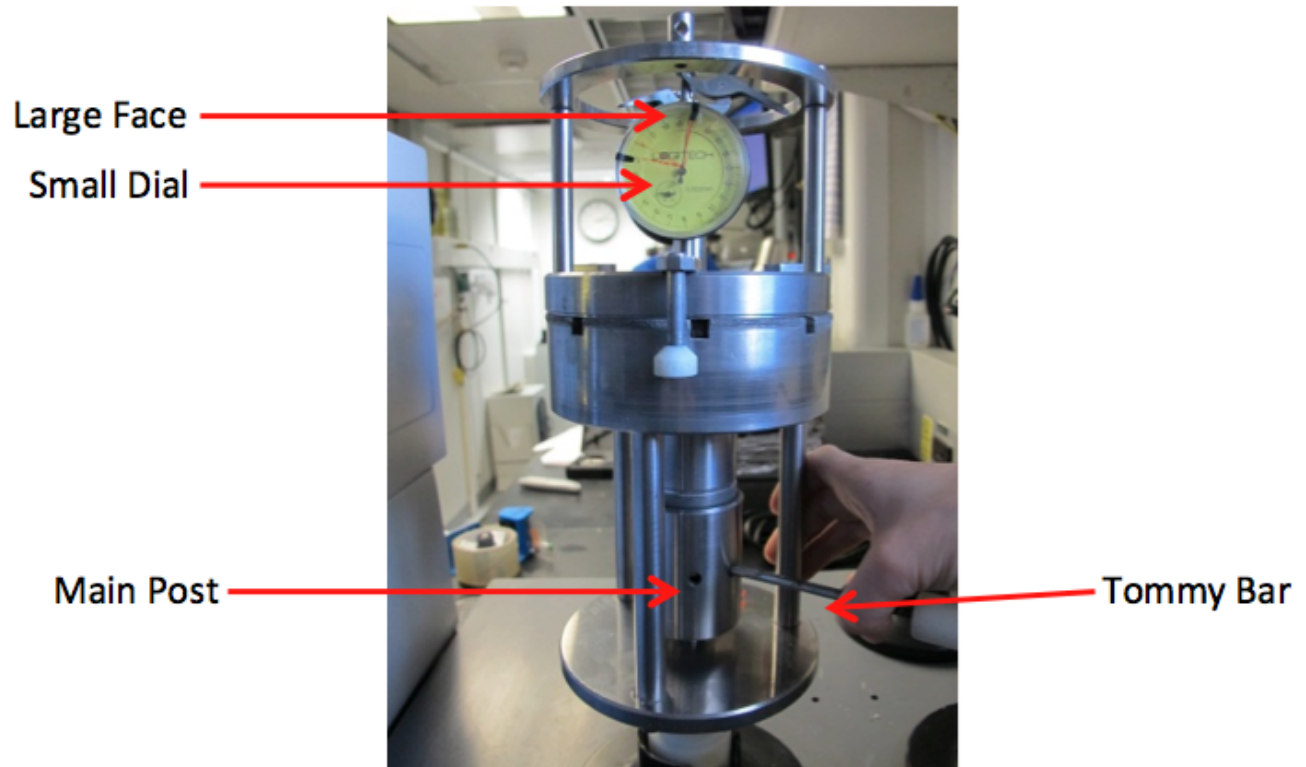

Figure 1
3. Gently set the scale on the jig (Fig. 1) and wiggle the scale.
- i. The small dial (Fig. 1) on the bottom left side should read 12.
- ii. The large face (Fig. 1) should read 01.
1. If it is not set to 1201, change it by inserting the Tommy bar into the holes on the main post in the middle of the jig (Fig. 1).